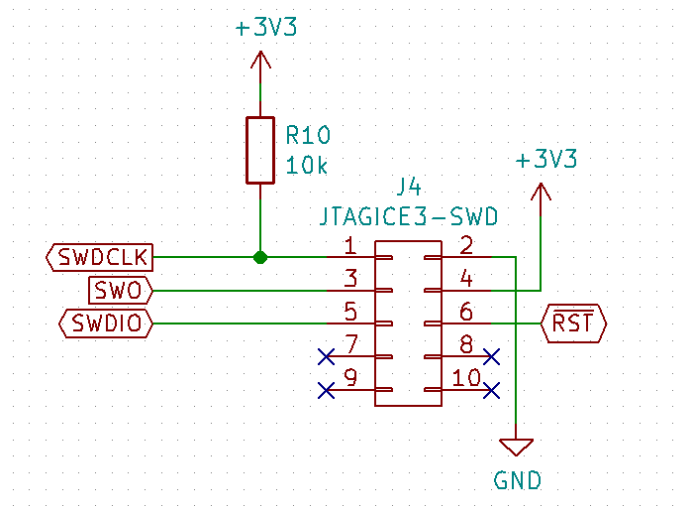

Figure 2 - Source Locations and Connector Labels
- 6) Connections to sources should have positive power on the top and ground/negative connections on the bottom. **Figure 2.**
- 7) No-connects should be labeled with the no-connect symbol (x) directly on their pin. **Figure 2.**
- 8) All individual signal labels (global labels, hierarchal labels, and net names) should be in size 1.194mm text. **Figure 2.**
- 9) All global labels and hierarchal labels should be I/O shapes associated with the block they are going to/coming from. Ex) **Figure 2** shows a JTAGICE3-SWD connector. The signals SWDCLK and SWDIO are outputs from the connector into the microcontroller (not pictured), they are therefore labeled as outputs. SWO is an input to the connector from the microcontroller and is also labeled as an input. Likewise, nRST is a bidirectional signal and is labeled as such.
- 10) All active low signals should be labeled with a bar across the signal name. See RST in **Figure 2**.
- 11) All major nets should have net names or labels. Nets that terminate with a continuous wire connection should have a net name. **Figure 3** is an example of using net names as each net pictured terminates using a continuous wire, no jumps are necessary. Nets that do not terminate (i.e. jump around the board) should have a global or hierarchal labels. Single sheet schematics should use global labels rather than hierarchal labels. **Figure 2** is an example of global labels being used to label nets as these nets are not continuous with a single green wire.